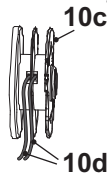

Fig. 19
5. Lead one end of the new trimming lines (10d) through the small eyelet on the trimming spool (10c) in direction of the arrows (Fig. 19).